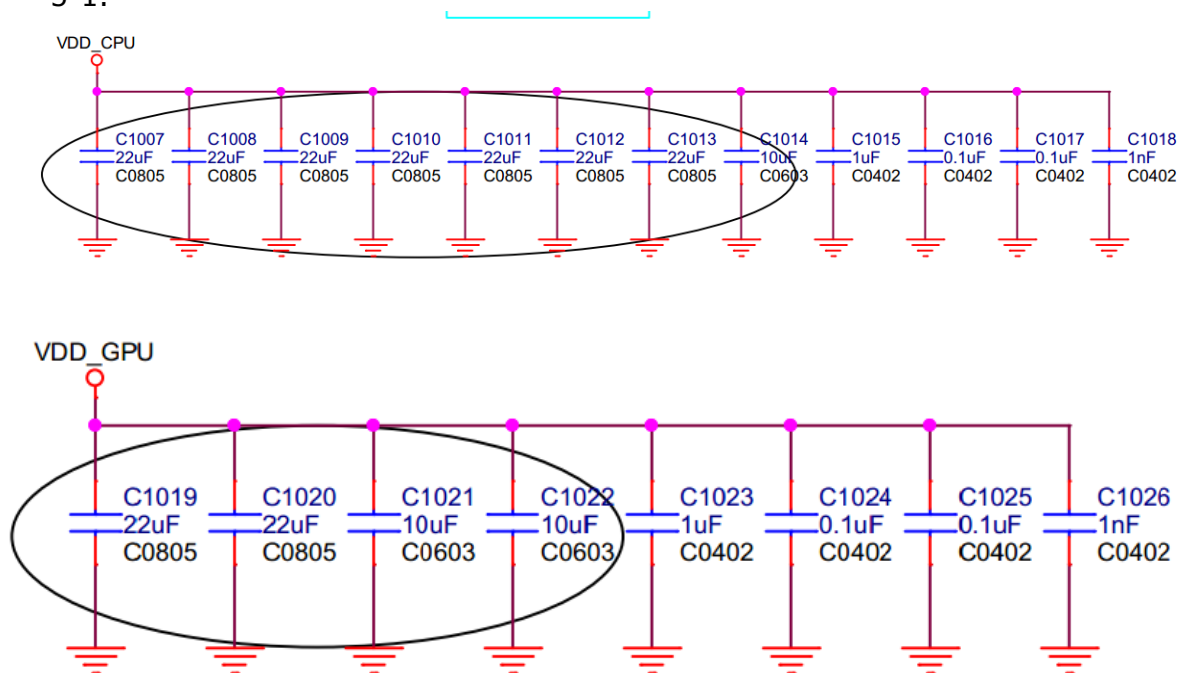

Figure 5-1
- VDD_CPU and VDD_GPU are power supply for SOC, and the peak current can up to 4.4A/3.6A(CPU@1.6GHz,GPU@400MHz), therefore please do not delete the capacitors in the reference design (VDD_CPU need 154uF capacitors, VDD_GPU need 66uF capacitors), the large capacitor should be placed close to the back of SOC to ensure the power ripple to be controlled within 100mV, shown as Figure 5-1.